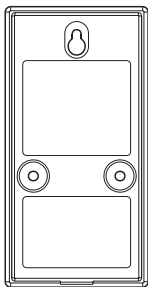

Figure 5
- Using keyhole on back of chime base, hang base on screw (see Figure 5).